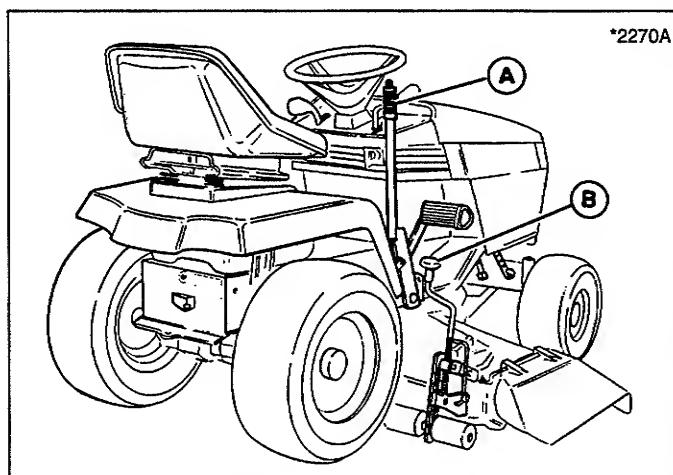
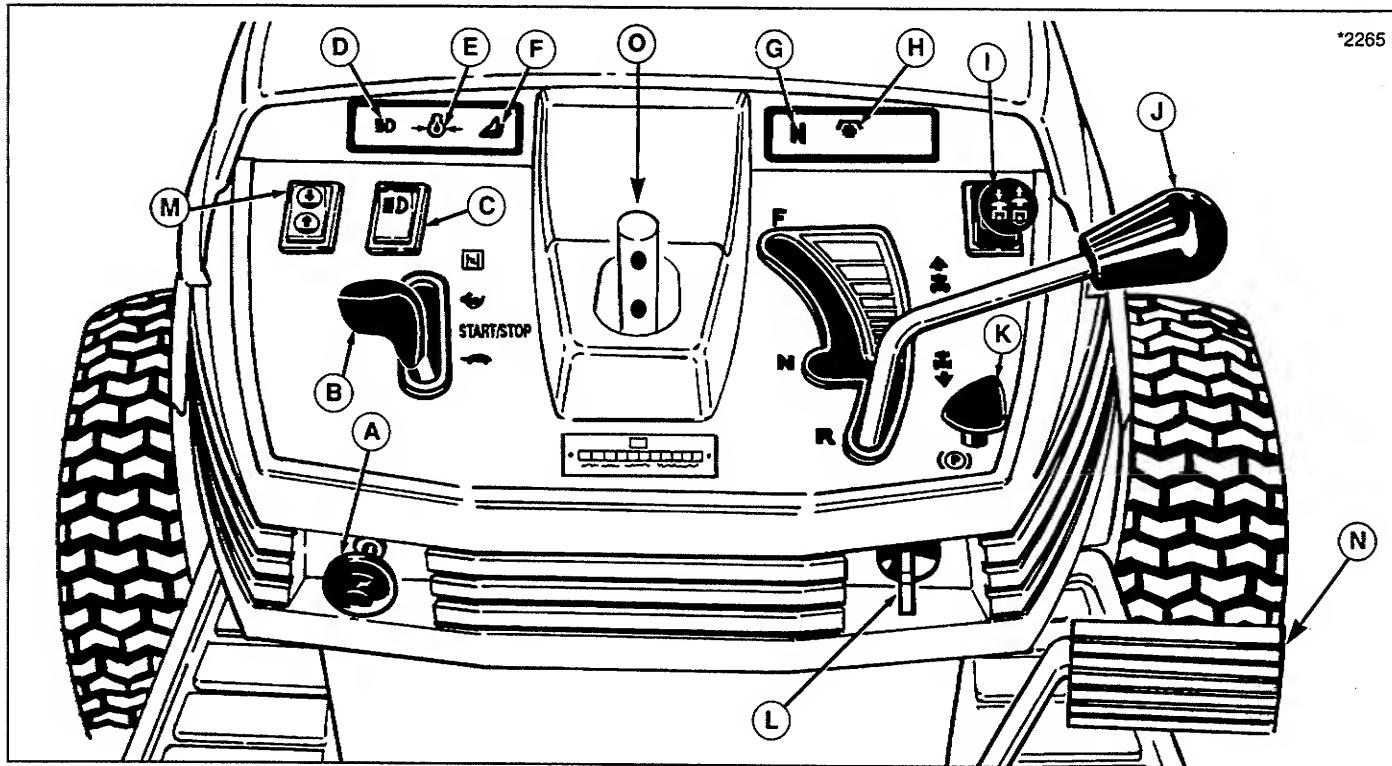

Figure 10. Mower Operation - Manual Lift
Figure 13. Tractor Controls (Hydro Model Shown)
2. Place mower in the lowest cutting position using the mower height adjuster (B, figure 10). Place the mower lift lever (M, figure 2 or A, figure 10) in the lowest position, also. Slide mower deck under right side of tractor so that mower hitch is aligned with front tractor hitch.
2. Place mower in the lowest cutting position using the mower height adjuster (B, figure 10).
3. Place the mower lift lever (A, figure 10 or M, figure 13) in the lowest position.
1. When traveling to or from the work site, fully raise the mower using the mower lift lever (A, figure 10 or M, figure 13). At the work site, lower mower using the lift lever.
2. Use the mower height adjuster (B, figure 10) to set the proper mowing height. See Mowing Patterns & Tips section for cutting height recommendations.
Refer to figure 13.
On hydro models, ground speed is infinitely variable according to how far the control lever (J, figure 13) is moved in the forward or reverse position.
On gear models, ground speed is selected by depressing the clutch pedal and moving the control lever (J, figure 13) to the appropriate gear selection.
1. If you are ready to mow, lower the mower from the transport position using mower lift lever (A, figure 11 or M, figure 13) and set the mowing height using the
2. Set the engine speed control lever (B, figure 13) for full speed.
3. Use the PTO switch (I) to engage the PTO.
4. Release the parking brake by depressing brake pedal (N, figure 13) and pushing knob (K) down.
5. On hydro models, move the ground speed control lever (J, figure 13) to the desired direction and speed of travel to set the tractor in motion.
6. Adjust engine speed control lever (B, figure 13) to the desired speed. Between 3/4 and full speed is recommended for mowing.
1. On hydro models, move the ground speed control lever (J, figure 13) into the NEUTRAL position to make a gradual stop. To make a more rapid stop, depress the clutch/brake pedal (N, figure 13).
On gear models, press the clutch pedal (N, figure 13) down to disengage the clutch for a gradual stop. For a more rapid stop, press the brake pedal down to apply the brake while also depressing clutch pedal to disengage the PTO. Move the ground speed control lever to NEUTRAL before releasing the pedals.
2. Engage the parking brake by fully depressing brake pedal and pulling up on parking brake knob (K, figure 13).
3. Use the PTO switch (I, figure 13) to disengage the PTO.
4. Set the engine speed control lever (B, figure 13) to 1/2 throttle setting and allow the engine to idle for 20 seconds. Stopping a hot engine too fast may cause engine damage.
5. Turn key (L, figure 13) to OFF and remove it.
1. With engine off and key removed, use the PTO switch (I, figure 13) to disengage the PTO.
2. Place the mower in the transport position (up) using the mower lift lever (A, figure 10 or M, figure 13).
3. Place the ground speed control lever (J, figure 13) in the neutral position.